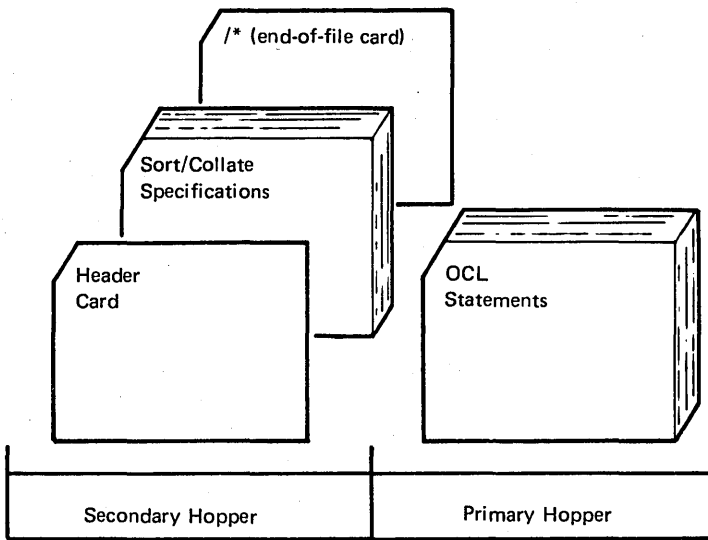
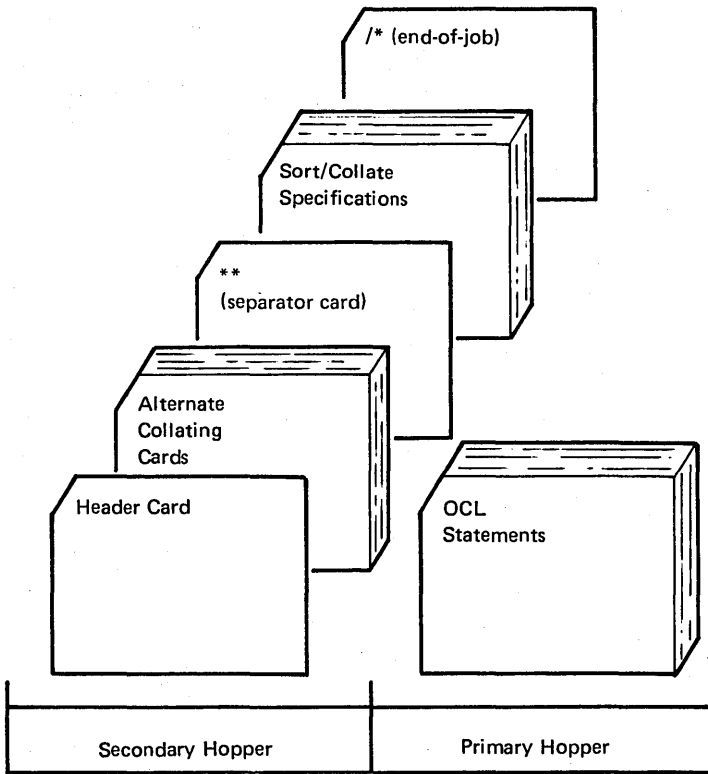

Figure 32. Input for Sort/Collate Without Alternate Collate Cards
Figure 33. Input for Sort/Collate With Alternate Collate Cards
4. Place sort specification cards in secondary hopper of MFCU. Figure 32 shows the input for sort/collate without alternate collating. Figure 33 shows the input for sort/collate with alternate collating.